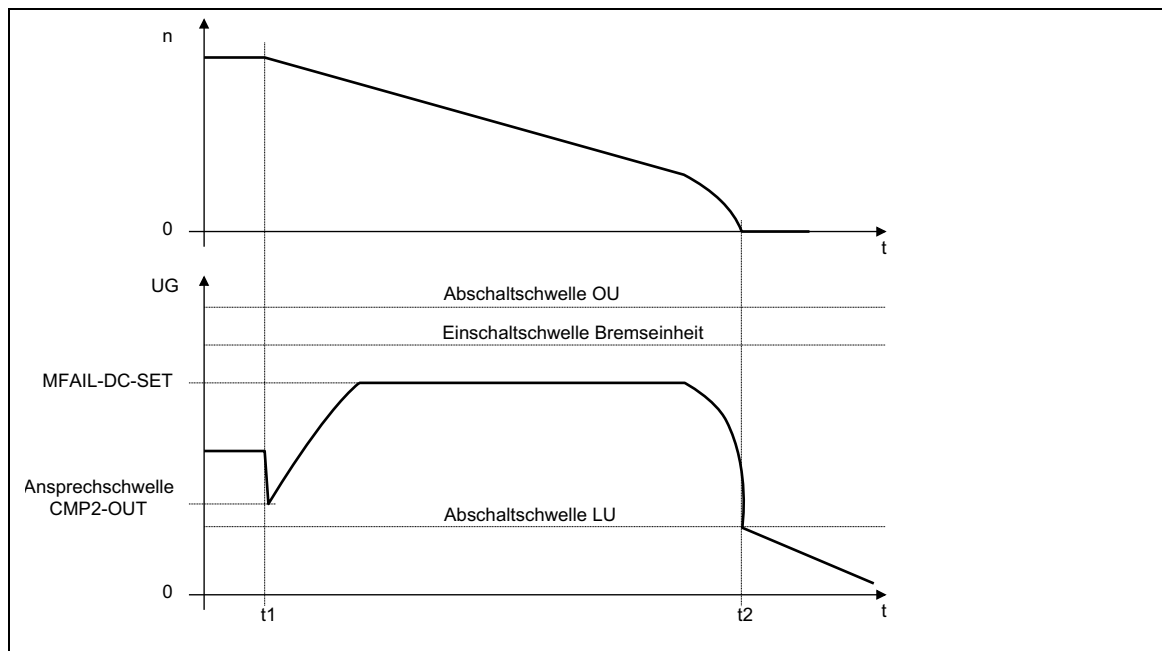

Fig. 3-103
- Increasing the integral-action time MFAIL  $T_n$  (C0981) until the characteristic in Fig. 3-103 is almost reached.